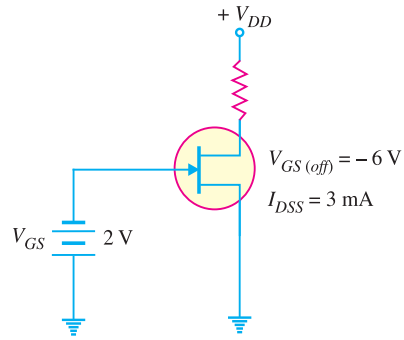

Fig. 19.16
**Example 19.5.** Determine the value of drain current for the circuit shown in Fig. 19.16.
**Solution.** It is clear from Fig. 19.16 that  $V_{GS} = -2\text{V}$ . The drain current for the circuit is given by;